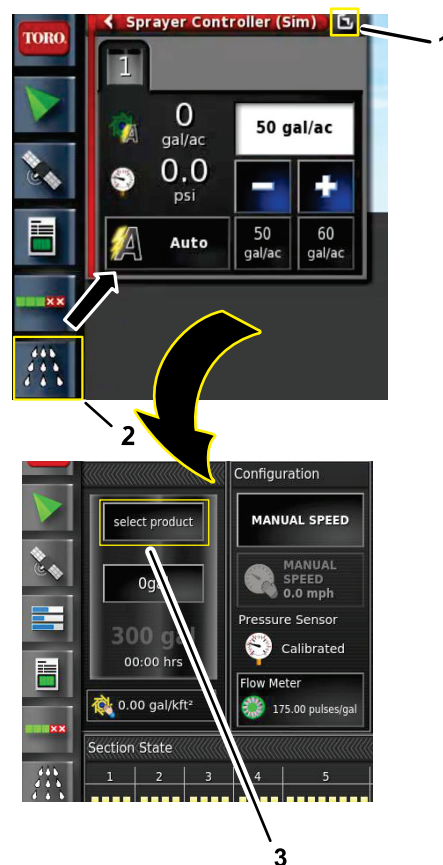

Figure 115
3. Press the PRODUCT CONFIGURATION icon (Figure 115).
2. Press the SPRAYER CONTROLLER icon and press the expand view icon in the sprayer-controller panel (Figure 115).